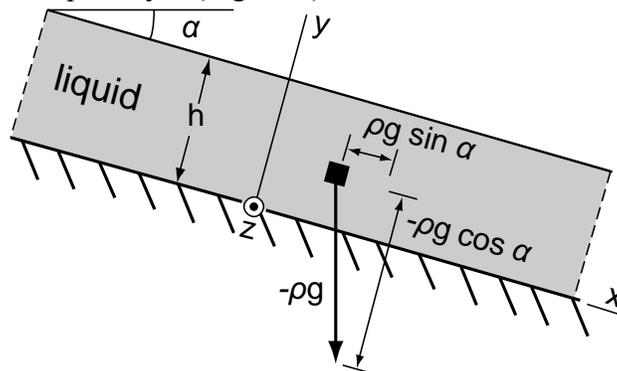

Figure 3. Cross section of a viscous liquid flowing down an inclined plane.
- 3) Consider the flow of an incompressible, isotropic and linearly viscous liquid down an inclined planar surface that is very long in both the strike and dip directions compared to the thickness,  $h$ , of the liquid layer (Figure 3).